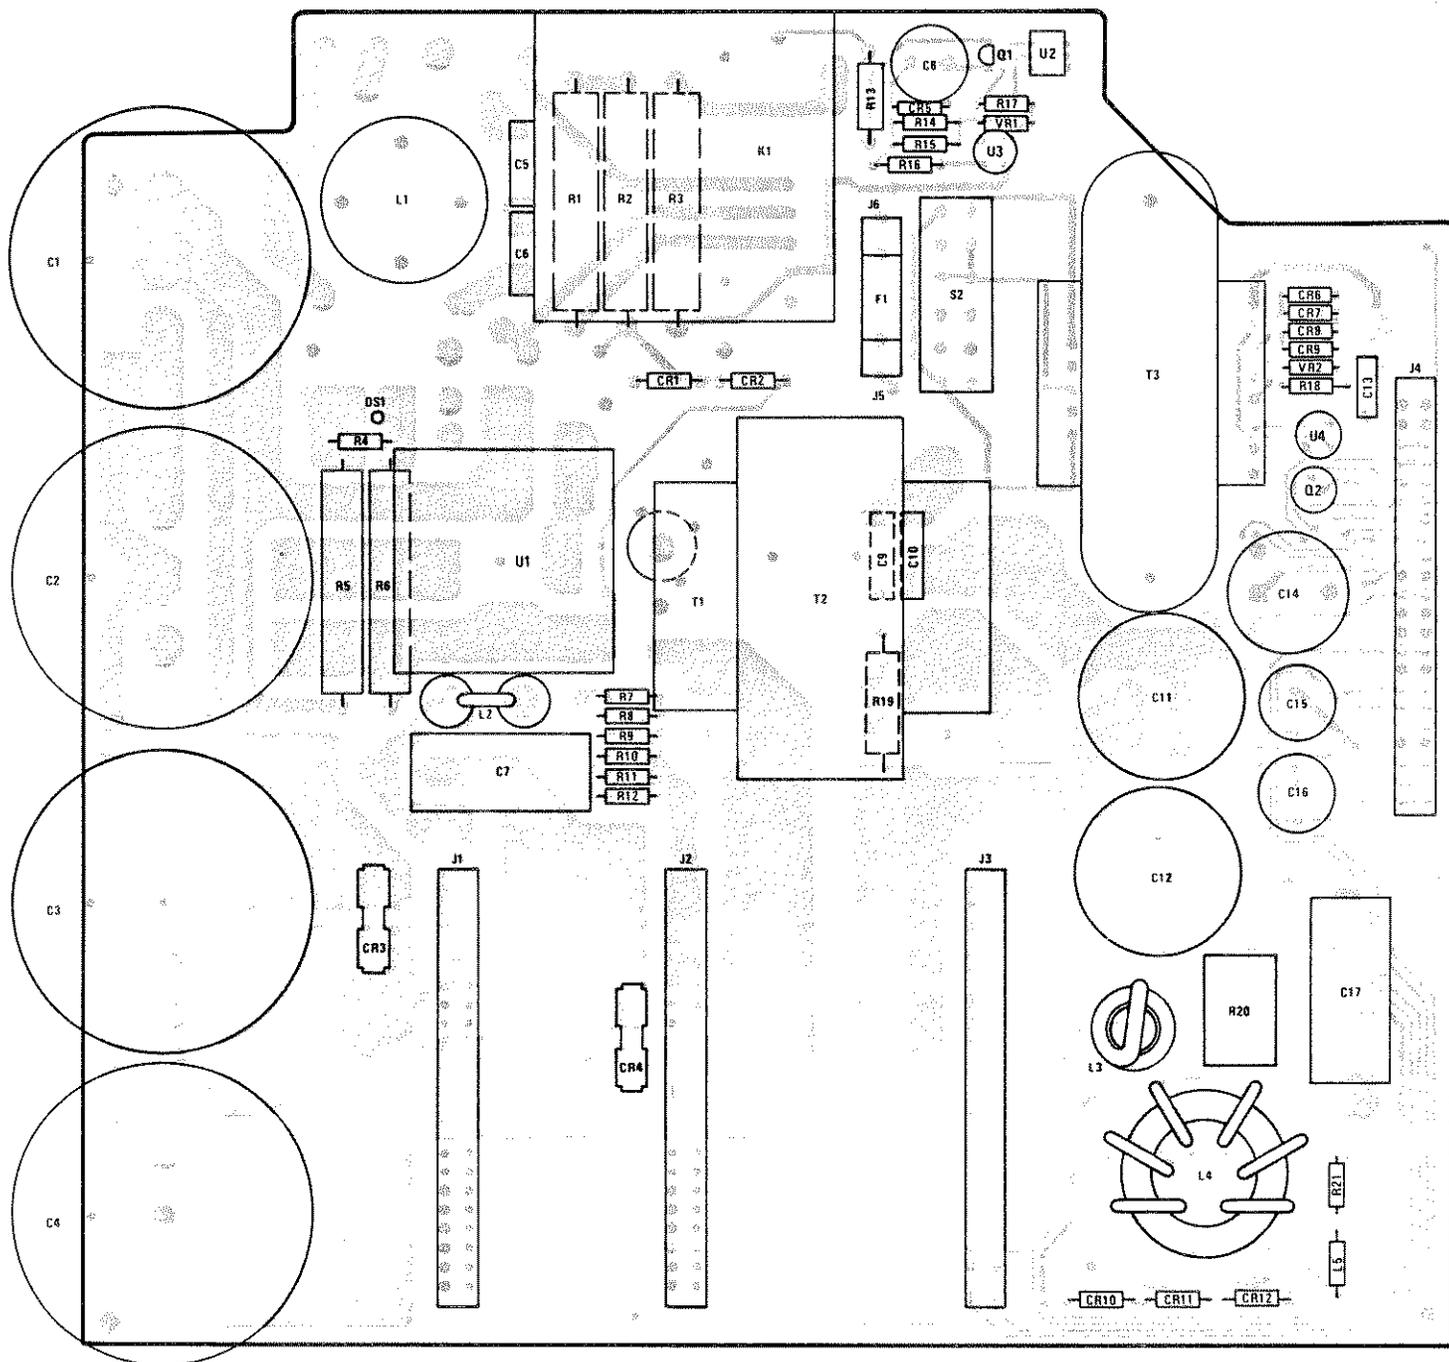

Figure 7-2. Main Board (A1) Component Location.
b. Component location diagrams (Figure 7-2 through 7-6), showing the physical location and reference designators of almost all electrical parts. (Front-panel-mounted components are identified by lettering on the board and front panel.)